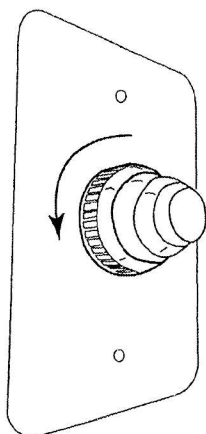
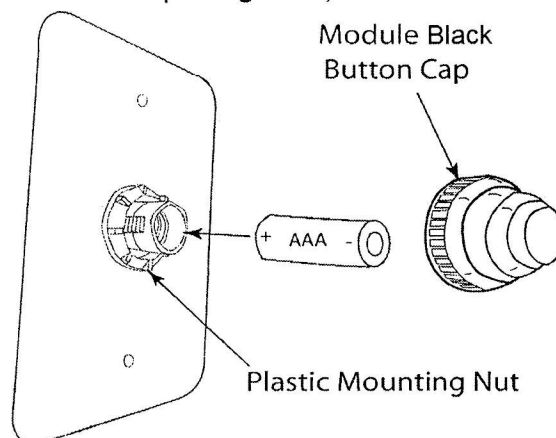
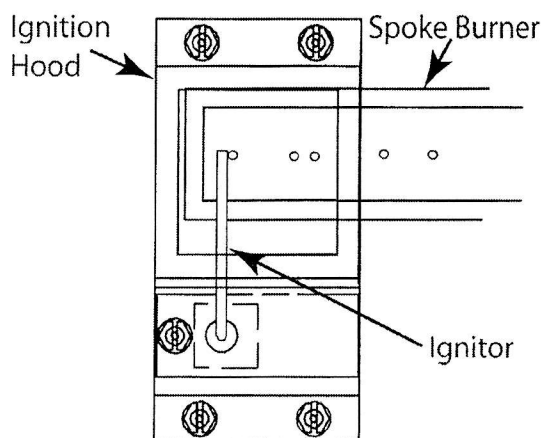

Fig. 6 Piezo ignitor cap.
Fig. 7 Piezo ignitor battery installation.
Fig. 8 Proper alignment of probe.
The piezo ignitor requires (1) AAA battery in order to spark/operate. Unscrew (counter-clockwise) the piezo ignitor cap (See fig. 6) and insert the positive end of the battery into the ignitor body. Screw the cap (clockwise) until snug (See fig. 7). Careful not to overtighten the cap. Test the ignitor by pushing and holding the red button to ensure the ignitor probes inside the fire pit are sparking. The spark should be located directly overtop of the burner port hole for proper ignition of the gas (See fig.8). Spacing between the probe and spoke burner should be approximately $\frac{3}{16}$ -inch for proper spark.
For proper ignition it is important that the ignitor probe be properly aligned overtop of the burner port holes. Use Fig.8 as a guide. Before lighting remove the screen cover of the ignition hood to burner and ensure the spark probe is directly overtop of a burner port hole. The sparking probe must be in the path of a flame to ignite the gas for proper ignition of the flame. Replace the screen cover and follow the operating instructions.
4. Gas should ignite within 10 seconds or less. If fire pit does not light within 10 seconds turn key clockwise to turn OFF the gas supply. Check ignitor probe location (Fig. 8), ensure there is an 1/8" gap between the probes with a good strong spark then repeat steps 2 through 4.